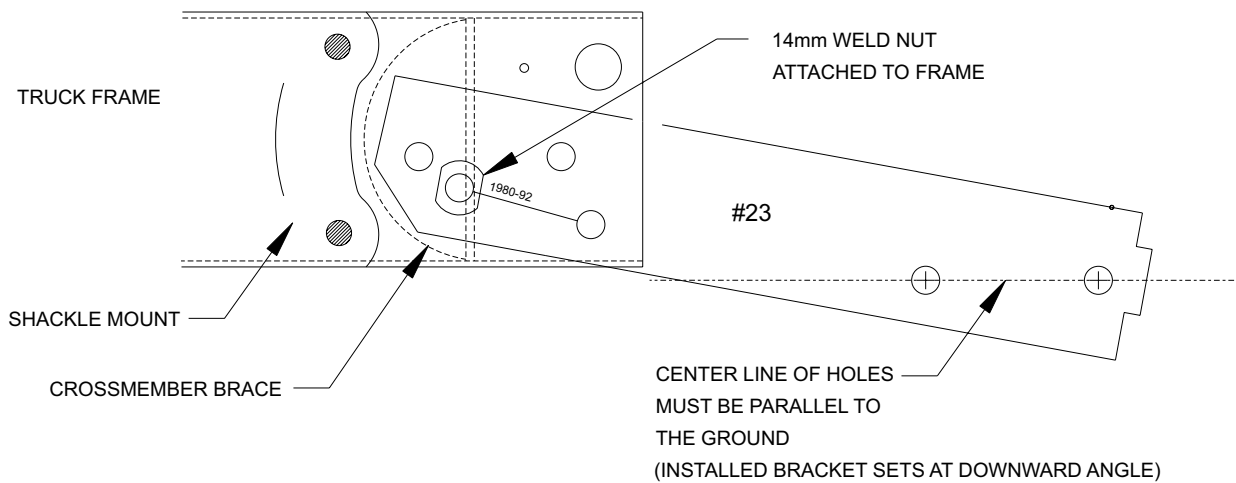

FIGURE 1C (driver side view)
STEP 1: Using 14mm hardware (yellow color coated), loosely install mounting brackets on the outside of truck frame rails with the offset inwards. The truck frame rails have one 14mm weld nut attached to each frame rail. These weld nuts will be used for installing mounting brackets. Refer to figure 1C. DO NOT TIGHTEN mounting hardware.